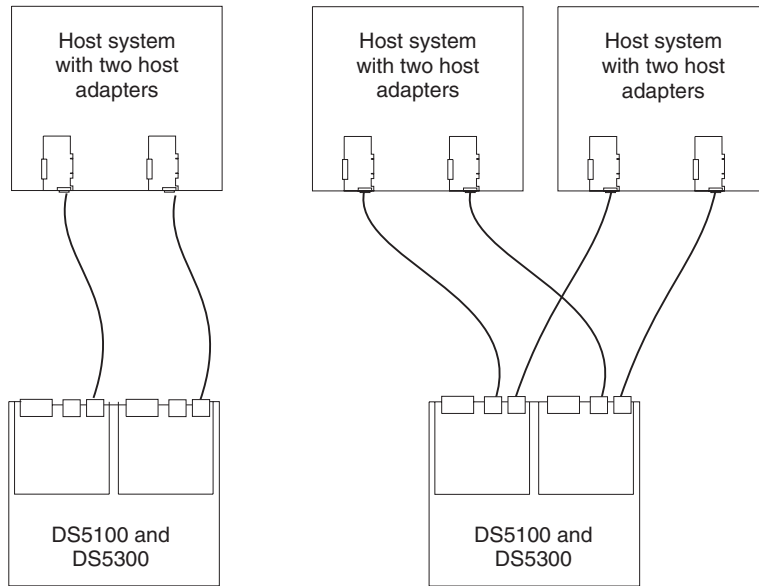
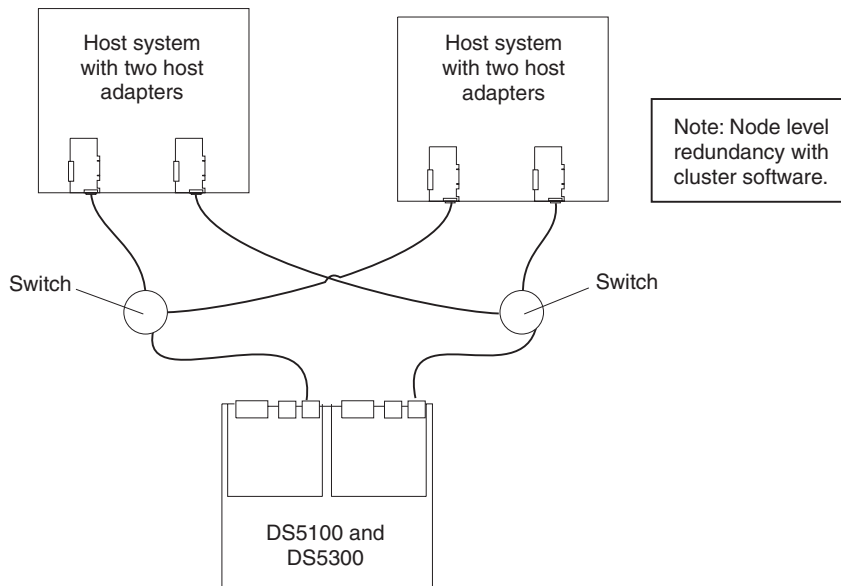

Figure 89. Examples of redundant host direct attached fibre channel configurations
Figure 90. Example of redundant SAN fabric fibre channel configuration
- Redundant host and drive fibre channel loop configurations, as shown in Figure 89 on page 140
Figure 89 is an example of one host system to one, and two host systems without switches to one. Figure 90 is an example of a redundant SAN fabric channel configuration.